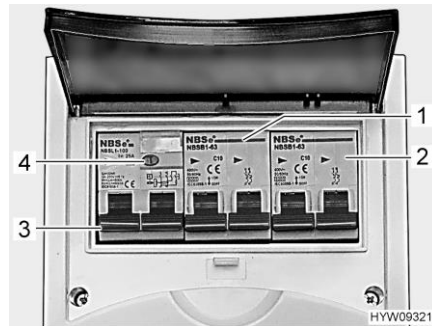

Fig. 114 Safety cutout and FI-switch (230 V fuse box)
A fault current protection switch (FI-switch) (Fig. 114,3) in the fuse box protects the complete vehicle from fault current (30 mA).
The downstream safety cut-out (10 A) (Fig. 114,1) secures the 230 V sockets, the transformer/rectifier, the auxiliary charging unit and the refrigerator.
For vehicles with special equipment, e.g. roof air conditioning unit, the device is protected by an additional safety cut-out (16 A) (Fig. 114,2).
- When the vehicle is connected to the 230 V power supply, press the test button (Fig. 114,4). The fault current protection switch (FI-switch) must be activated.